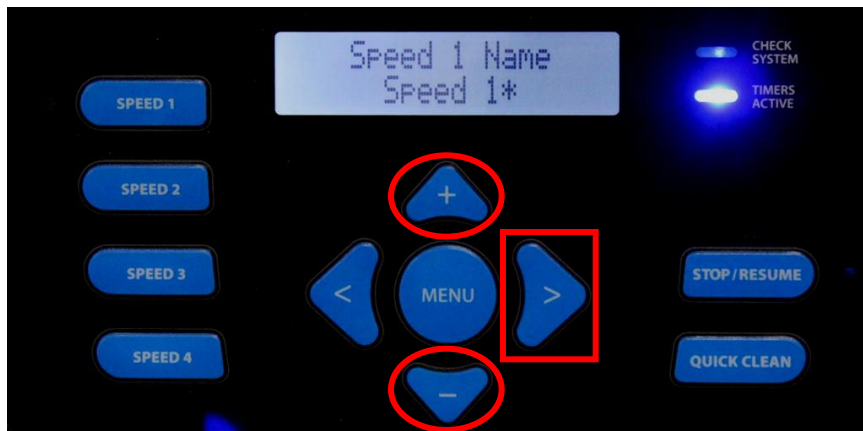

Fig 59
2. Pressing the  &  buttons allows you to select a variety of names to apply to this Speed button (fig 59). Press the  button to continue.